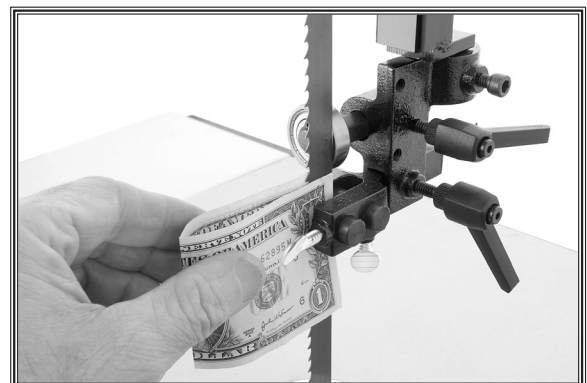

Figure 30. Blade guides against both sides of blade.
7. Fold a crisp dollar bill in half and place it over the blade (between the blade guides and the blade), as shown in **Figure 30**.